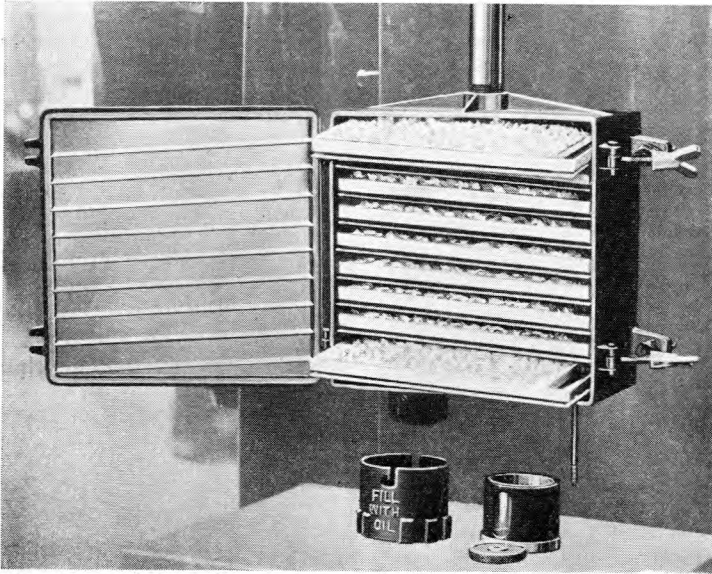

Fig. 2.—THE NEW PATTERN CALCIUM CHLORIDE BREATHER SHOWN OPEN (Ferranti, Ltd.).
### (2) Breathers and Oil Seals (Fig. 2).